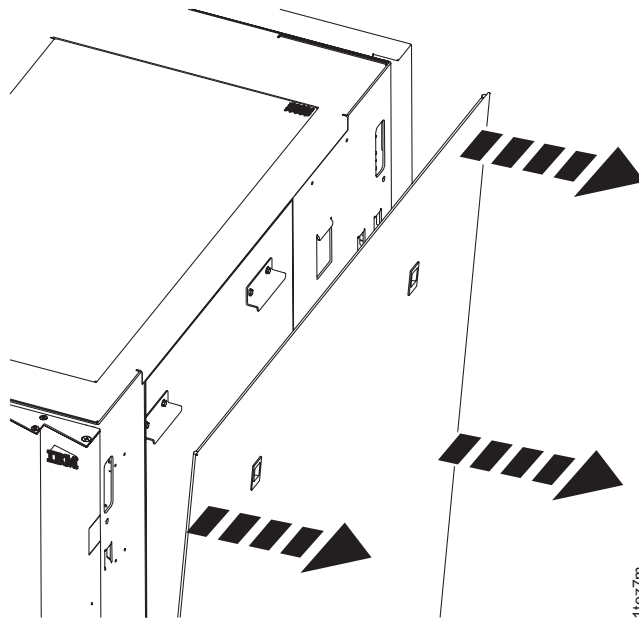

Figure 9. Removing the end cover
- b. Pull the upper corners of the cover away from the rack to release the upper "hook and loop" fasteners and apply even pressure working your way down the sides. See Figure 9.